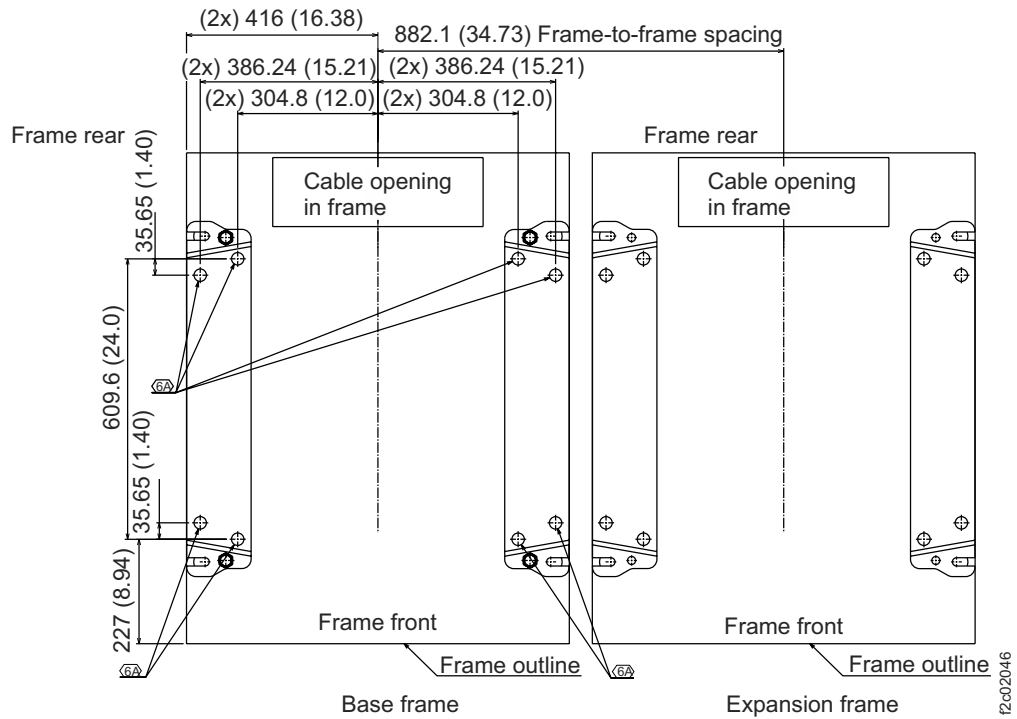

Figure 26. Locations for fastener installation (nonraised floor)
- Use Figure 26 on page 162 to determine the placement of the fasteners. The pattern repeats for up to three frames. Dimensions are in millimeters (inches).